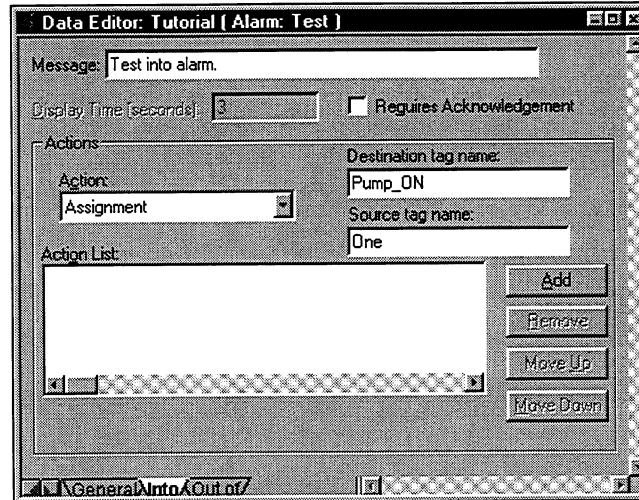

Figure 4-35. Specifying Into Alarm Page Settings
8. Add the into alarm settings to the list box, as shown in Figure 4-35.